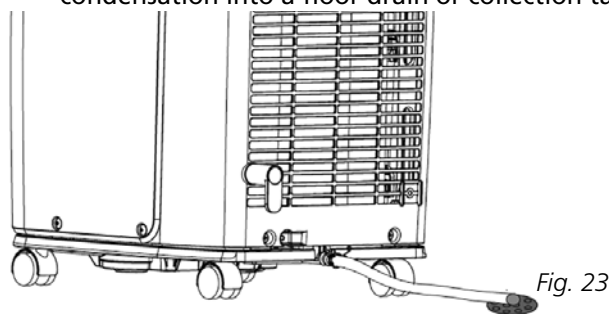

Fig. 23
- 5** To drain the condensation, take the hose out of the holder and drain the condensation into a floor drain or collection tank (see fig. 23).